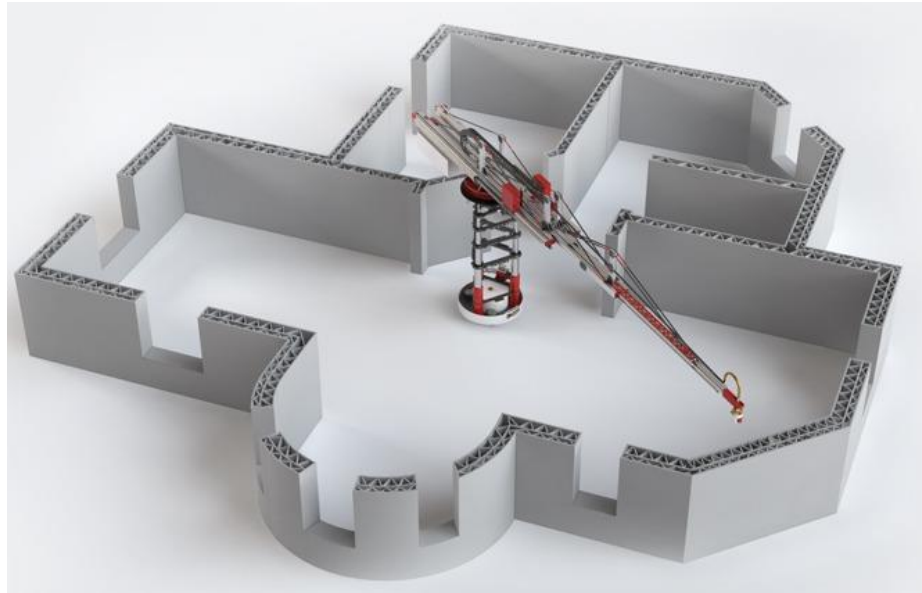

Figure 3
- (b) Figure 3 shows the use of a robotic system to build a house suitable for practical human living. The robotic system utilised the principles of 3D printing system where the material used to build the walls and structures are placed layer by layer. The design of the house is segmented into various subsections and passed to the robot controllers for actual layer positioning and material ejection. Describe the possible issues to construct such a robotic system for such a purpose. The issues discussed must cover the following aspects: